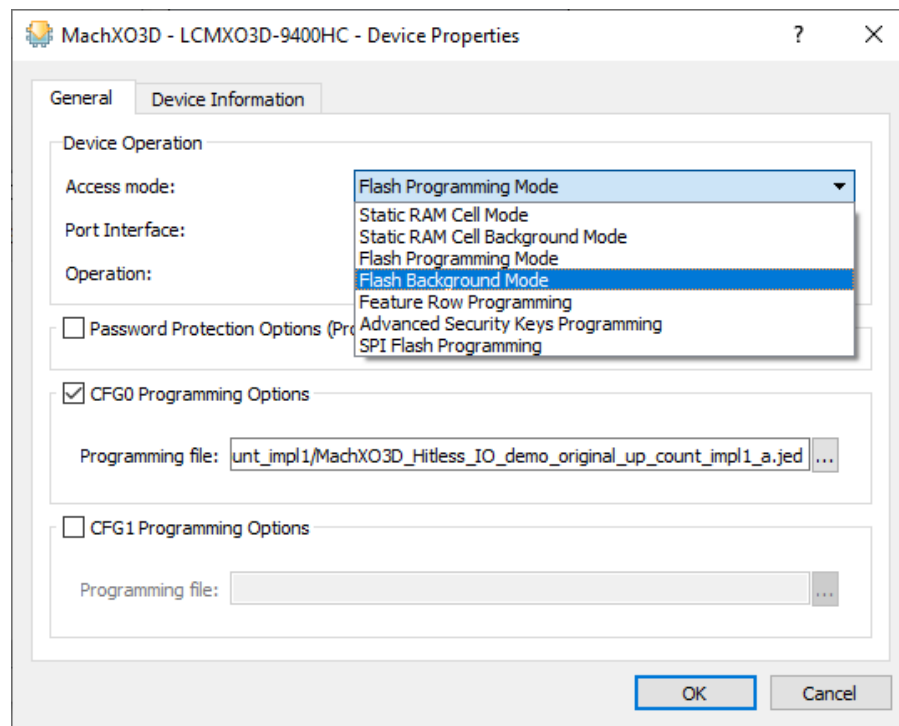
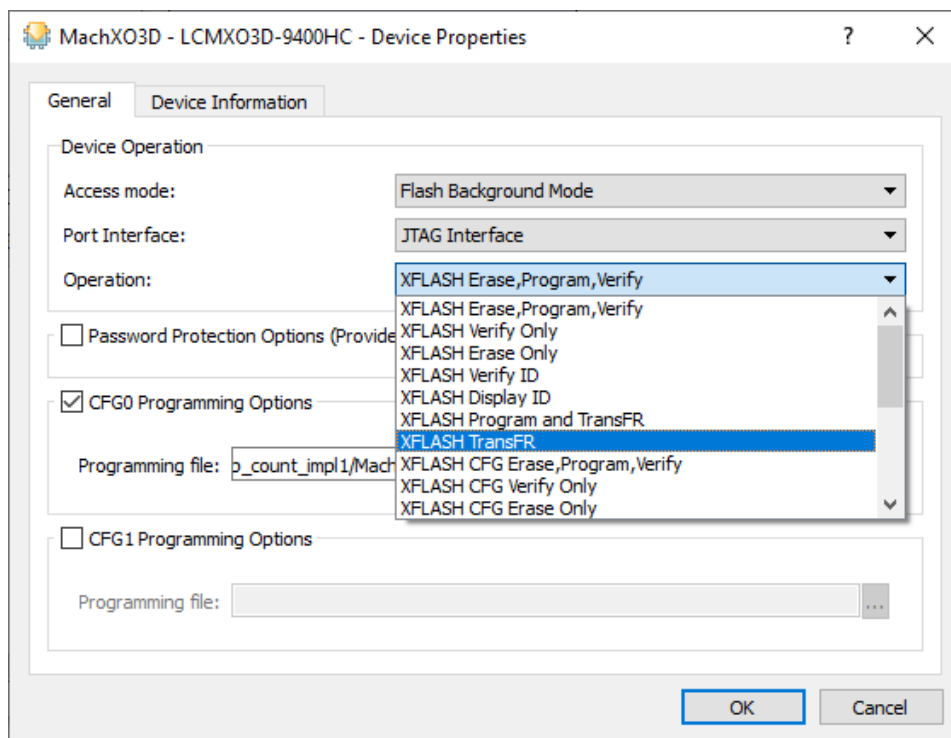

Figure 6.15. Access Mode Options
Figure 6.16. Operation Options
- From the **Access mode** drop-down list select **Flash Background Mode** as shown in Figure 6.15.
5. Select **XFLASH TransFR** from the **Operation** dropdown menu (Figure 6.16) to transfer the new bitstream from Configuration Flash to SRAM using the TransFR feature.
Updating the Design	Updated Figure 6.15 and Figure 6.16 .